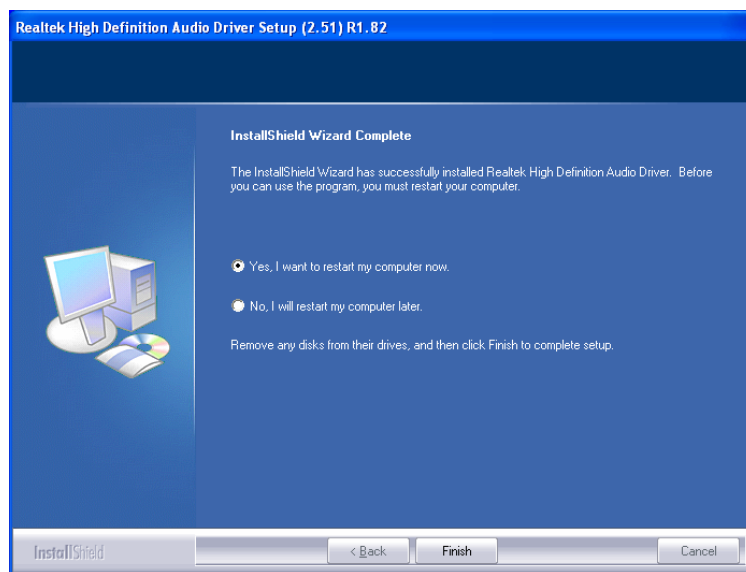

Figure 7-21: Restart the Computer
Step 6: After the driver installation process is complete, a confirmation screen appears (**Figure 7-21**).